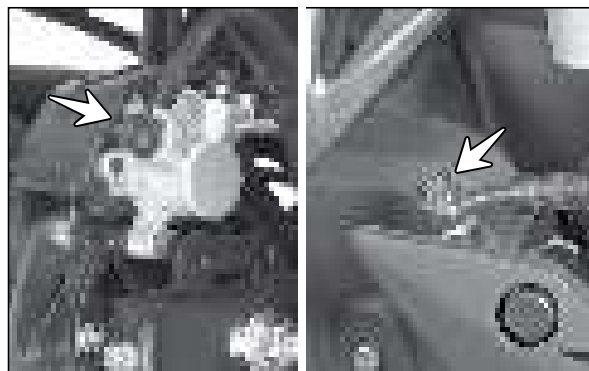

Fig. 6.117
- Remove the banjo bolt (2 Nos.) along with gaskets (2 Nos. on each side) from both the ends of the hose complete brake. (Fig. 6.117)